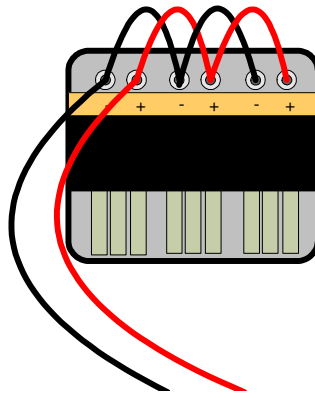

Figure 1 – Solar Panel wired in Parallel
8. Take apart the solar panel series wiring and wire it in parallel as in Figure 1. Leave the 100 ohm resistor in place for now.